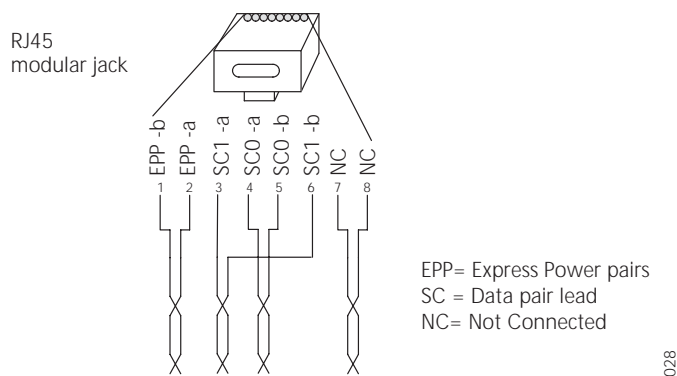

Figure 15. Connector pinning of the RFP cable.
- 2 Connect the cable to a RJ45 modular jack. For information on the pinning, see figure 15.